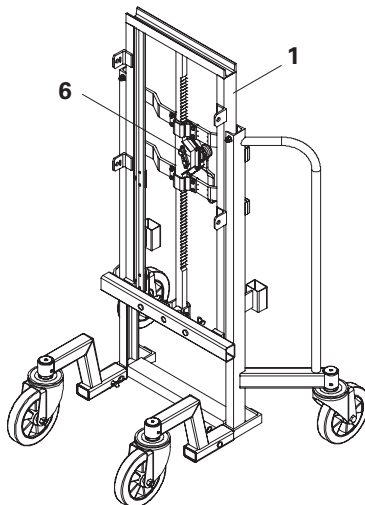

Fig. C3.01
The Winch (6) as well as the Trolley with Winch (1) is a unit for the lifting and lowering of loads which is operated through the use of muscle power. The load can be securely held at any position through the integrated brake. (Fig. C3.01)